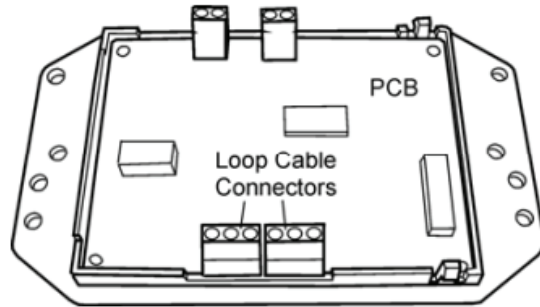

Fig 3
- Place the PCB into the CHQ Adaptor ensuring the loop cable connectors sit within the correct cut-away at the bottom edge of the raised section of the adaptor (see Fig 3 overleaf).